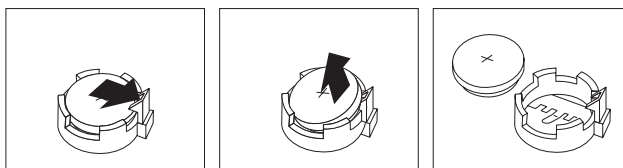

Figure 14. Battery removal
5. Remove the old battery. See Figure 14.